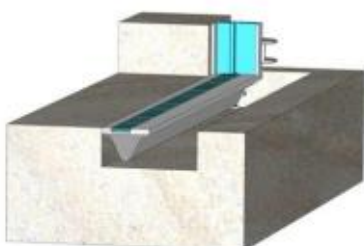

Fig. 8
- The bottom profile, if existent, requires onsite embedding with filler or mortar acc. Fig. 8.